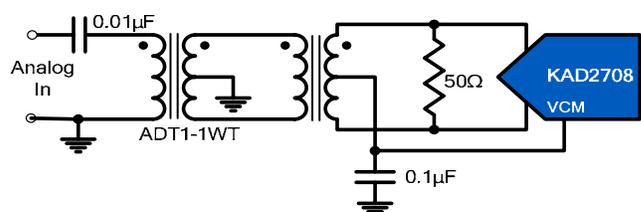

Figure 19. Transformer Input
Best performance is obtained when the analog inputs are driven differentially in an ac-coupled configuration. The common mode output voltage, VCM, should be used to properly bias each input as shown in Figures 19 and 20. An RF transformer will give the best noise and distortion performance for wideband and/or high intermediate frequency (IF) inputs. The recommended biasing is shown in Figure 19.